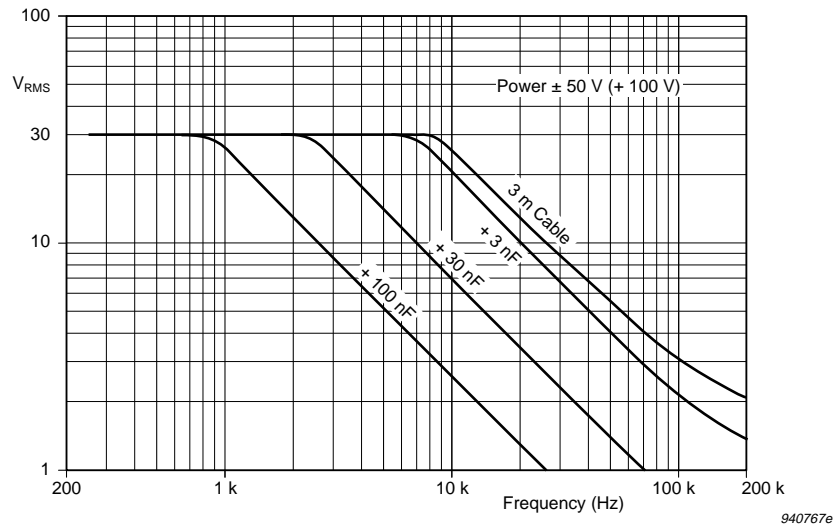

Fig.8.6 Upper limit of dynamic range (3% distortion) of preamplifier (with a ± 50 V DC supply voltage) due to capacitive loading as a function of frequency
The effects of various capacitive output loads (cables etc.) on the high frequencies are also shown. All curves shown in Fig.8.3 apply only for low signal levels where the limitations shown in Fig.8.5 and Fig.8.6 have no influence.
a. See Fig. 8.6 for upper limit at higher frequencies
Fig. 8.5 and Fig. 8.6 show the distortion-limited output when the preamplifier is used with different power supplies.